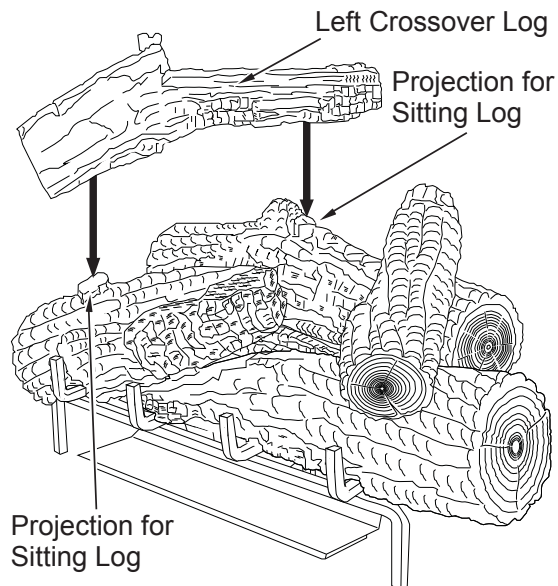

Figure 39 - Installing Left Crossover Log
6. Place the left crossover log onto the rear log and the left front log as shown in **Figure 39**. The left crossover log has notches in the bottom that will line up with the projections on the rear log and the left front log.